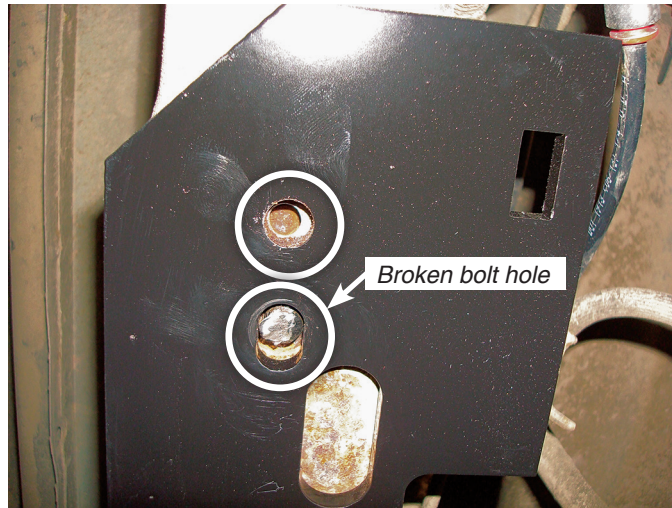

fig. 5
2. Center punch and drill a 5/16" hole in the center of the outside hole next to the broken bolt hole (fig. 5).